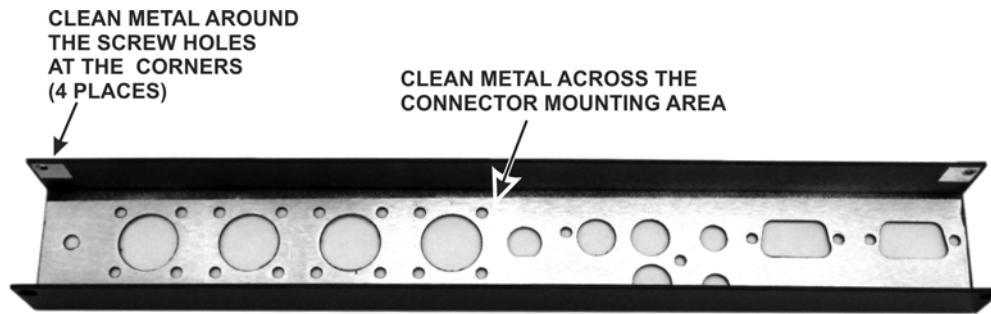

Figure 16. Preparing the Rear Panel.
- Inspect the inside surface of the rear panel and remove any tape or residue to provide a clean metal surface where shown in Figure 16.